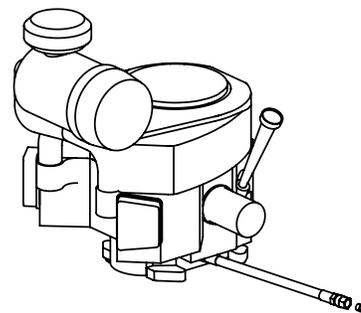

Figure 4-4
2. Locate the oil drain hose on the engine. See Figure 4-4.
4. While holding the free end of the oil drain hose over the oil collection container, unscrew the square-head hose plug from the end of the hose. See Figure 4-4. Drain the engine oil into the collection container.